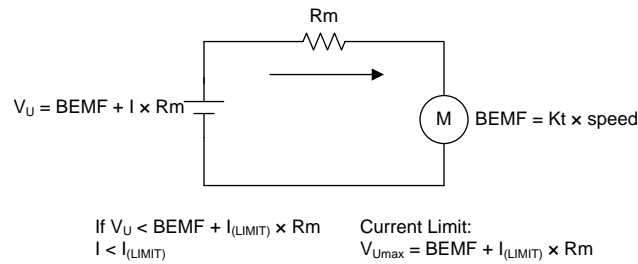

Figure 14. Current Limit
The current-limit function provides active protection for preventing damage as a result of high current. The soft current-limit does not use direct-current measurement for protection, but rather, uses the measured motor resistance (R_m) and motor velocity constant (K_t) to limit the voltage applied to the phase (U) such that the current does not exceed the limit value ($I_{(LIMIT)}$). The soft current-limit scheme is shown in Figure 14 based on the calculation in Equation 4.